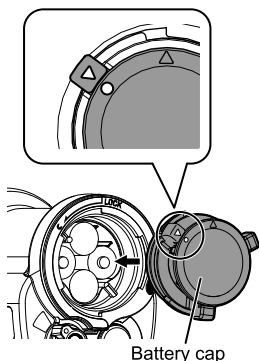

Fig.3
- 5 Verify that the [○] mark on the battery cap is lined up with the [▽] mark (Fig.3)
- 6 Align the battery cap with the [⊗] mark, and insert the battery cap into the strobe (Fig.3)